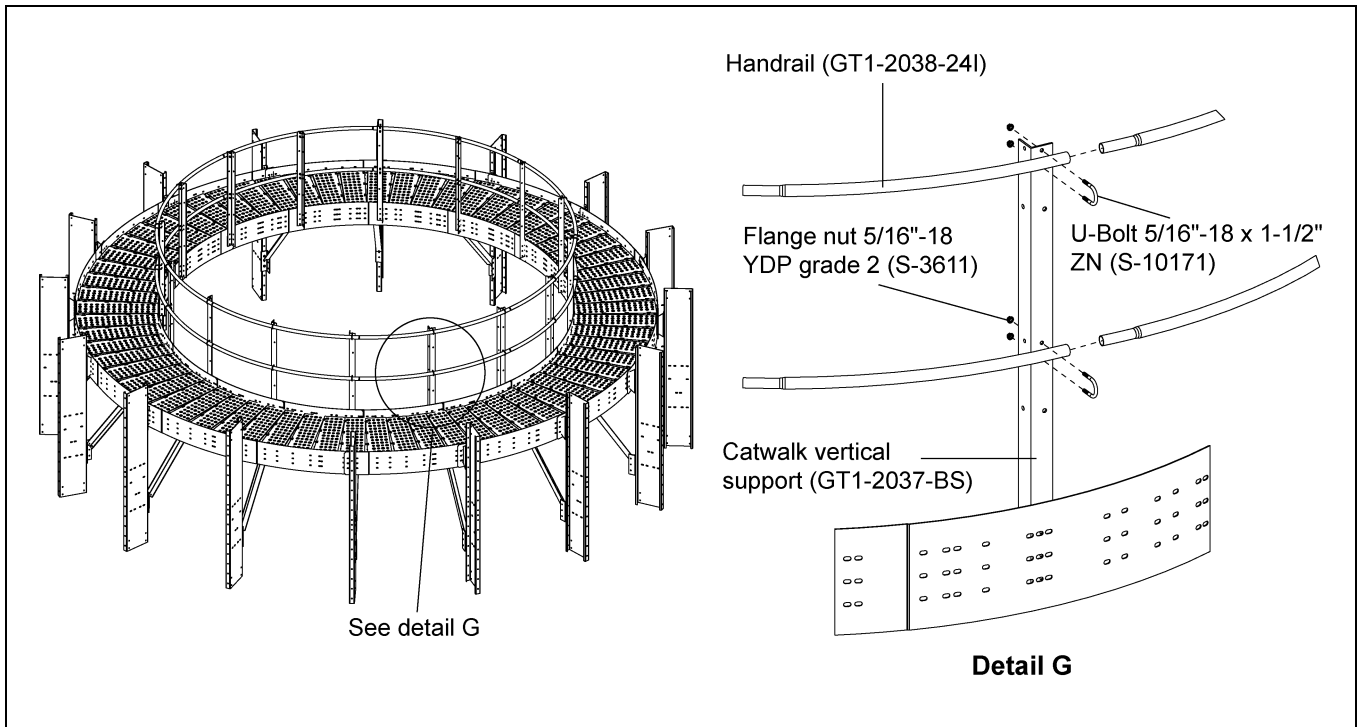
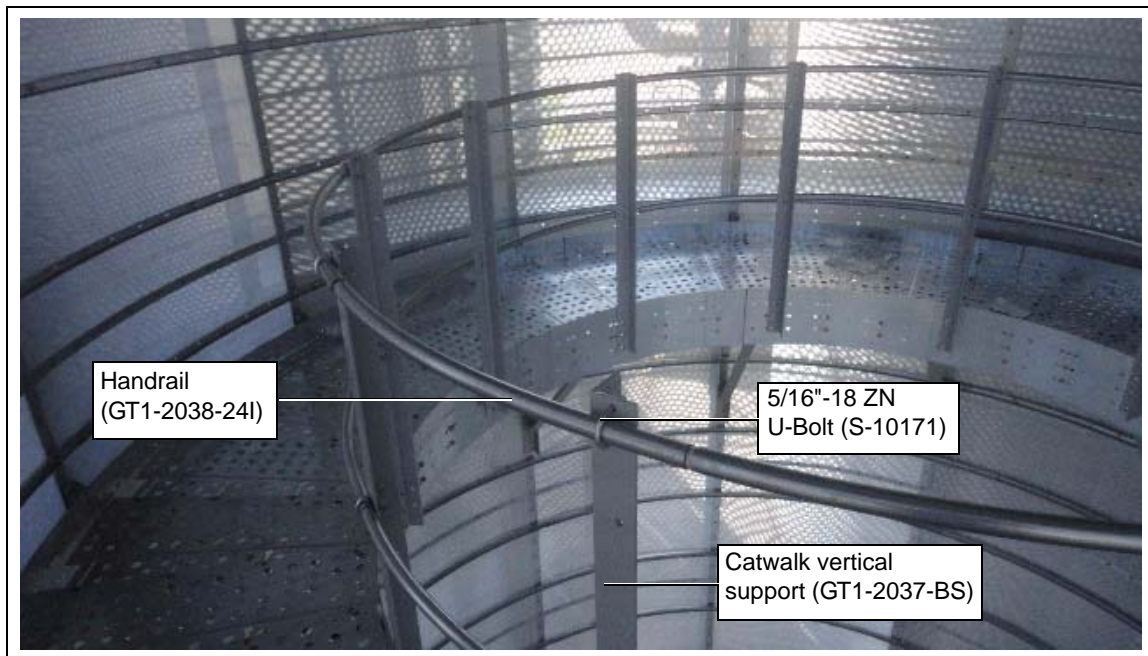

Figure 5L
Figure 5M
1. Install the handrail (GT1-2038-24I) to the catwalk vertical support (GT1-2037-BS) using 5/16"-18 ZN U-bolts (S-10171) and 5/16"-18 YDP grade 2 nuts (S-3611) to tighten the handrail with vertical post. (See Figure 5L and Figure 5M.)